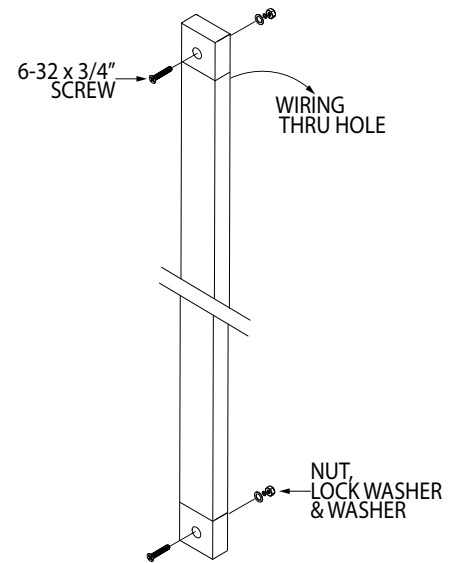

Figure 5.1 Tape Switch Installation
**Note:** As per "R-2.3.8 (8)" Emergency Call System of the Toronto Accessibility Design Guidelines: "Universal washrooms should provide an emergency call system that: (g) Has operable portions or controls consisting of a vertical emergency push strip extending between 200 mm to 1050 mm A. F. F. and located within 500 mm of the water closet."
7. Secure the Tape Switch with the two 6-32 x 3/4" screws through the washer, lock-washer, and nut on the other side. (See Figure 5.1)